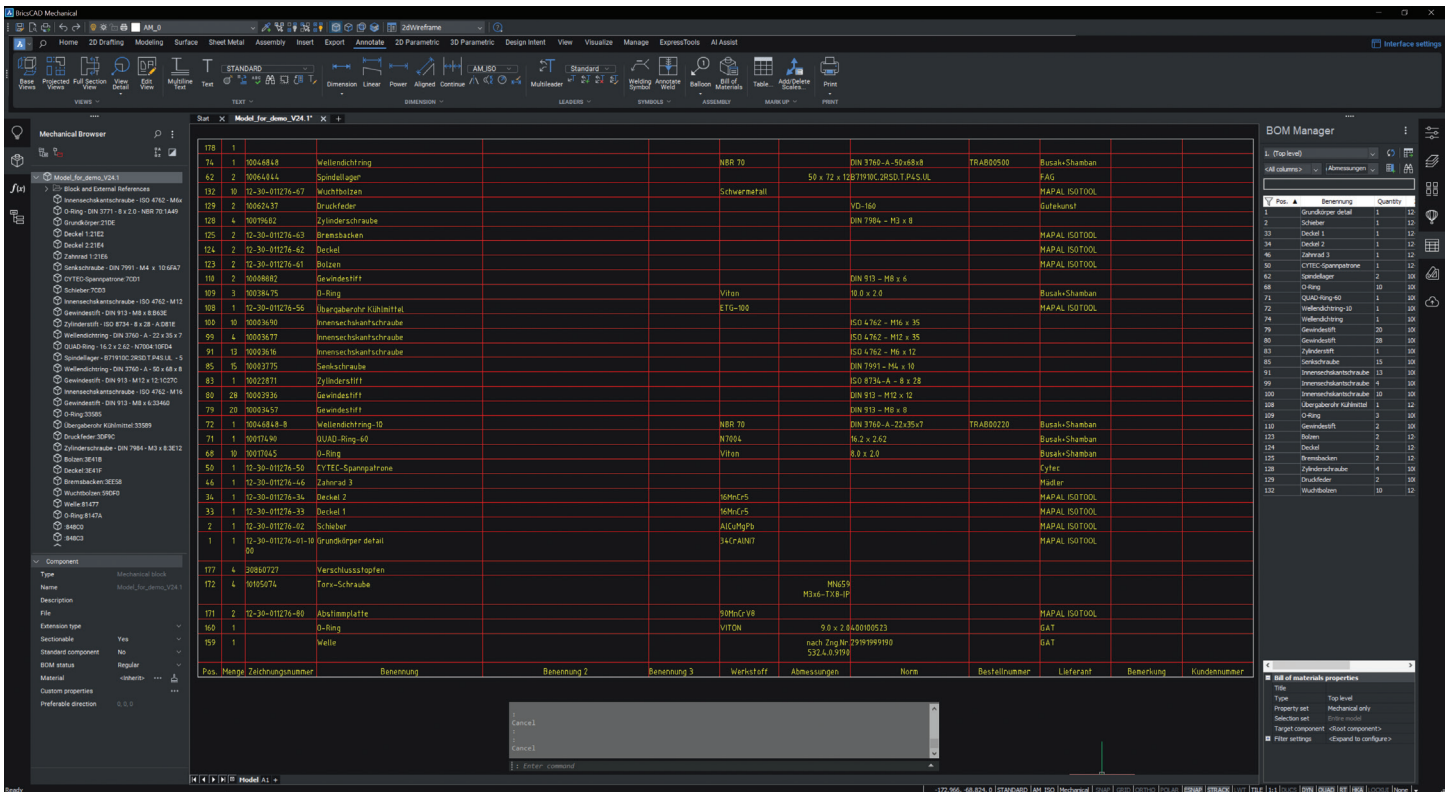

Figure 4
Cliff Brown, Executive Product Manager of BricsCAD® Mechanical gave us a rundown of why BricsCAD Mechanical is the fastest path to complete and accurate production materials. From a full suite of symbols and annotations to power dimensioning and workflow compatibility with part references and parts lists, BricsCAD Mechanical has more of the design and drafting tools that you have requested, closing the key 2D design and drafting functionality gaps. (See Figure 4)